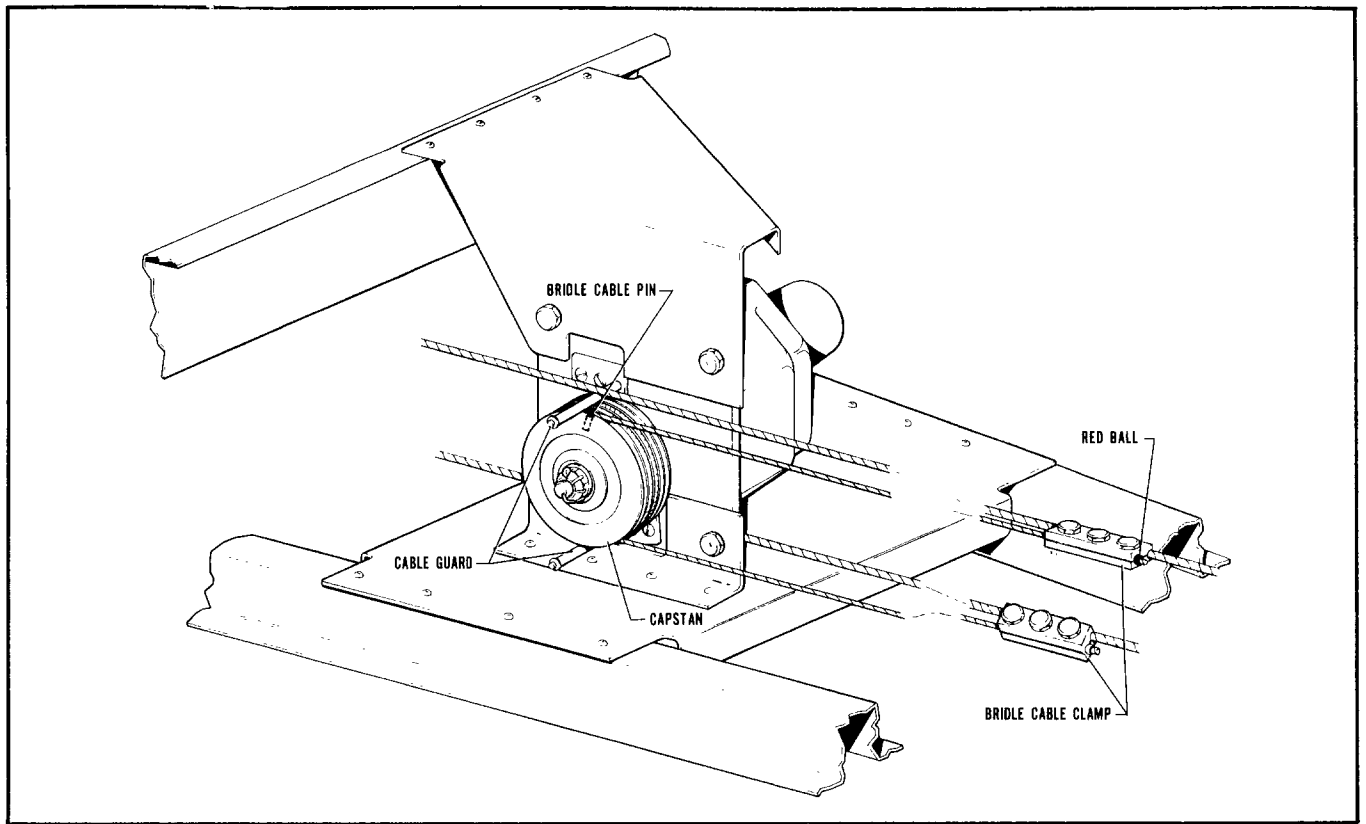

Figure 3-17. Pitch Servo Installation, PA-23-250
3-22. INSTALLATION OF PITCH SERVO. (PA-23-250 Six Place) F Model. (Refer to Figure 3-17.)
- e. REFER TO FIGURE 3-9 AND CHECK THAT THE CONTROL CABLE TENSION (Z) IS ADJUSTED TO  $35 \pm 4$  POUNDS PRIOR TO ATTACHING THE BRIDLE CABLE CLAMPS. Ascertain area on cable where clamp attaches is clean, dry and free of all lubricants and anti-corrosive additives. Attach the bridle cable to the stabilator control cables. The bridle cable is drawn to the stabilator control cables and attached with clamps at the previously painted locations. The end of the bridle cable with the red ball is attached to the left control cable. (Refer to Figure 3-17.) (Should the stabilator cables not be painted, position the control wheel full forward and with the servo disengaged, align the bridle cable pin installed in the capstan as shown in Figure 3-17.) Adjust the bridle cable clamps so that the bridle cable tension (Y) as shown in Figure 3-9 is  $15 \pm 2$  pounds. Check the control cable tension forward of the bridle cable clamps and adjust, if necessary to obtain  $35 \pm 4$  pounds. If the control cables require adjustment, it will be necessary to readjust the bridle cable tension to  $15 \pm 2$  pounds. Torque the bridle cable clamp bolts to  $55 \pm 5$  inch-lbs.